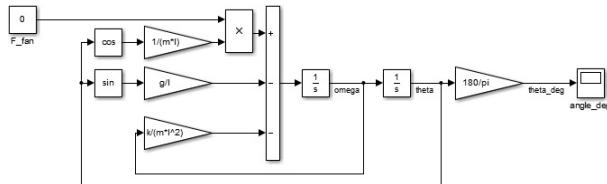
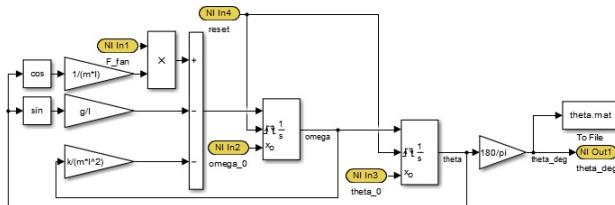

Figure 9: Simulink model for offline simulation
Figure 10: Simulink model for adjusted for compilation
**Example:** For a simple pendulum,  $\dot{\omega} = -\frac{g}{l} \sin(\theta) - \frac{k}{ml^2} \omega + \frac{F_{fan}}{ml} \cos(\theta)$ , the offline simulation block diagram could look as Figure 9. Figure 10 shows the same system adapted for VeriStand input, including reset and initial conditions, and output. The VeriStand blocks are yellow.  $\omega_0$  and  $\theta_0$  are ports corresponding to the initial conditions ( $\omega(0), \theta(0)$ ). The integrators take these values whenever reset is rising or falling.